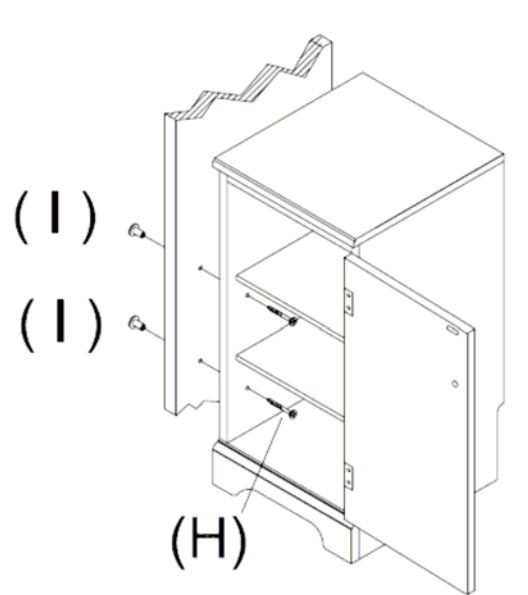

Fig 5
5. You can combine this cabinet with another component of the Madison system using the included Sleeve Screws (H) and Sleeve Nuts (I). To do so, align the two items. Insert the Sleeve Nuts (I) into the pre-drilled countersunk holes on the end of other component of the Madison system. Then insert Sleeve screws (H) into the pre-drilled countersunk holes on end of cabinet. Press the Sleeve Nut (I) and tighten the Sleeve Screws (H) with Phillips Head Screwdriver (not included). (Fig. 5)